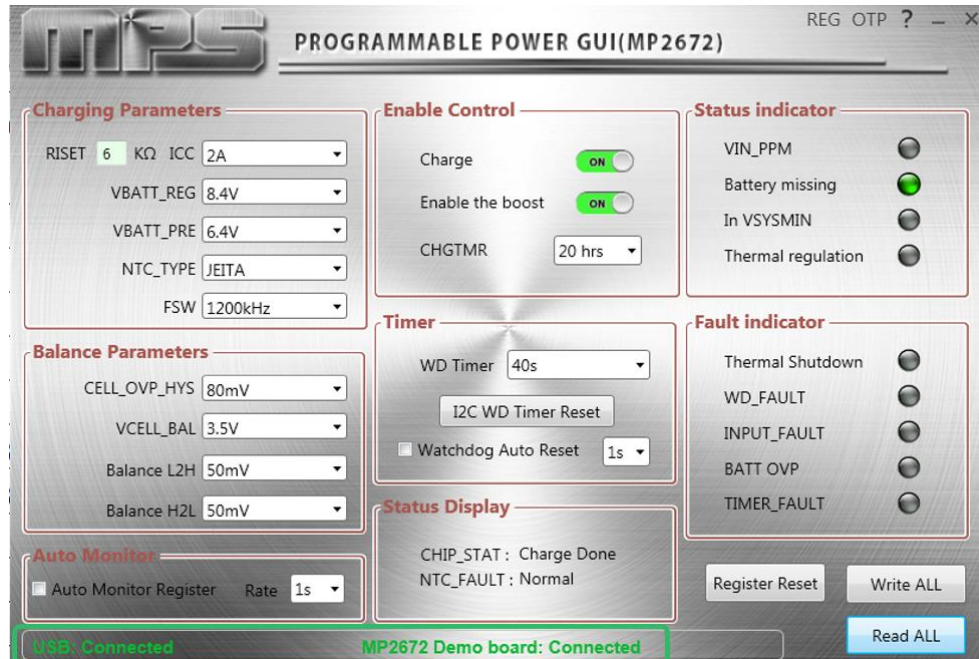

Figure 7: EVKT-USBI2C-02 and MP2672 Demo Board Show as Connected
- If the connection is successful, both the EVKT-USB2C-02 and MP2672 Demo Board statuses will show as "Connected" (see Figure 7).
- 2. Click the “Read All Registers” button to read the I²C register values. The default values are displayed (see Figure 7).